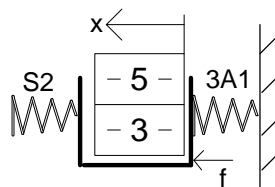

Figure 7: Mass-cart-spring system setup diagram
4. You will need this set up for future labs so record the spring numbers, spring location, number and type of 500g masses. It may be helpful to draw a diagram that you can replicate later. You must provide a summary of the detailed set up in the lab memo. Figure 7 provides an example of a detailed diagram of the system setup.